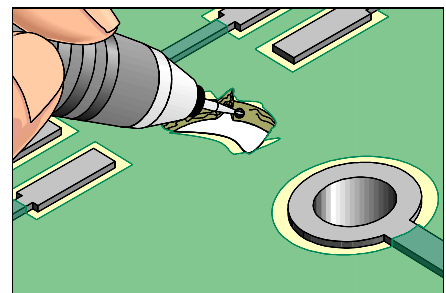

Figure 1: Mill away the damaged base material using the Micro-Drill System and ball mill.
2. Mill away the damaged board material using the Micro-Drill System and ball mill. Remove all evidence of the damaged material. No fibers of laminate material should be exposed. At the surface file the edges to ensure that the opening is rectangular or uniform in shape. (See Figure 1).